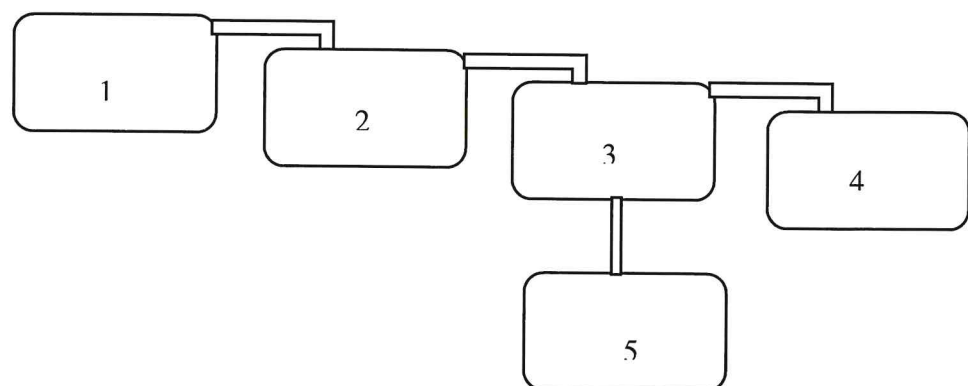

Figure 4.1/ Rajah 4.1
- (c) Figure 4.1 shows a wastewater treatment system in the textile industry. Analyze the related process in each number.